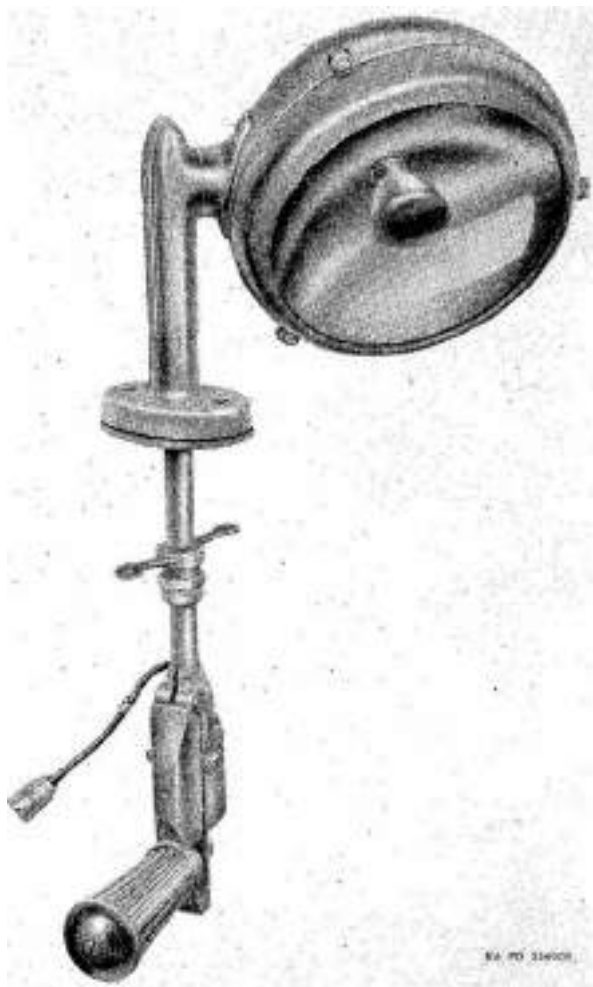

Figure 230 Spot light assembly (ambulance M43).
a. Spot Light Assembly (Ambulance M43). The spot light assembly (fig. 230) is a high candle power unit incorporating a self-contained switch and mechanism, which permits the driver to direct the light beam in any desired direction. The spot light assembly is mounted in the roof and the control handle and switch are in the driver's compartment.